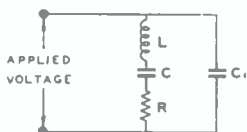

FIG. 1
**Technical Discussion:** The impedance of a quartz-crystal oscillator to an AC electrical current is exceptionally low and it can therefore be used as a series element of an electrical filter for CW reception. The quartz-crystal may be compared to the electrical equivalent circuit shown in Figure 1, where C1 is the capacity across the quartz plate when not vibrating; R, the resistance equivalent to the frictional effects of the vibrating crystal; L, the inductance corresponding to inertia; and C, the capacity corresponding to the elasticity. One side of resonance the circuit has capacitive reactance due to the elastic forces which control the crystal vibrations, while on the other side of resonance the reactance is inductive on account of the inertia effects. At resonance, the crystal vibrates freely, its amplitude being limited by the frictional